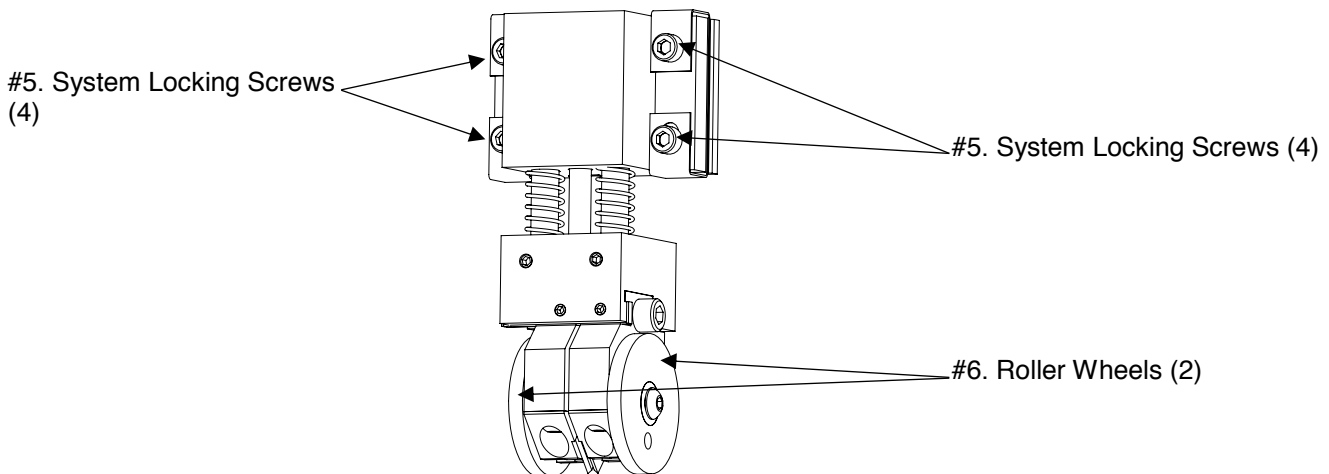

Figure 37: Engage Scoring
1. Loosen the four system locking screws #5, Fig. 37
NOTE: The Roller Wheels (Fig. 37, # 6) should raise approximately 1/8" when engaging material.
3. Tighten all four System Locking Screws, #5, Fig. 37.